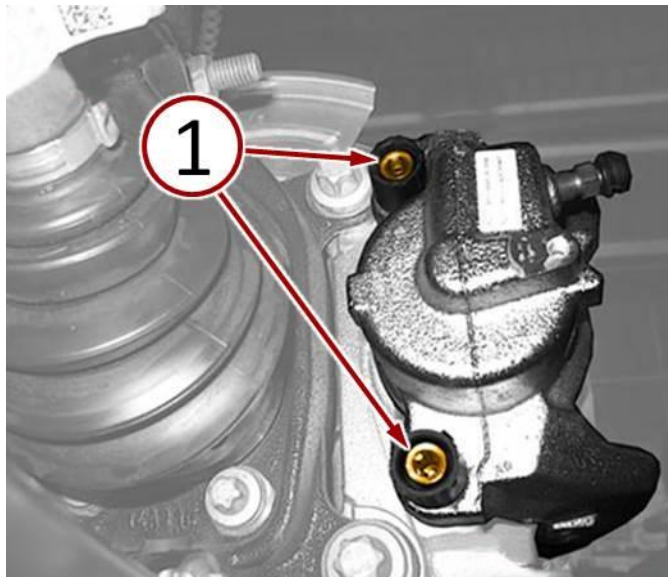

Fig. 10 Tighten Brake Caliper Guide Pin Bolts
20. Install the brake caliper mounting guide pin bolts (1) and tighten to 35 N·m (26 Ft. Lbs.) (Fig. 10).